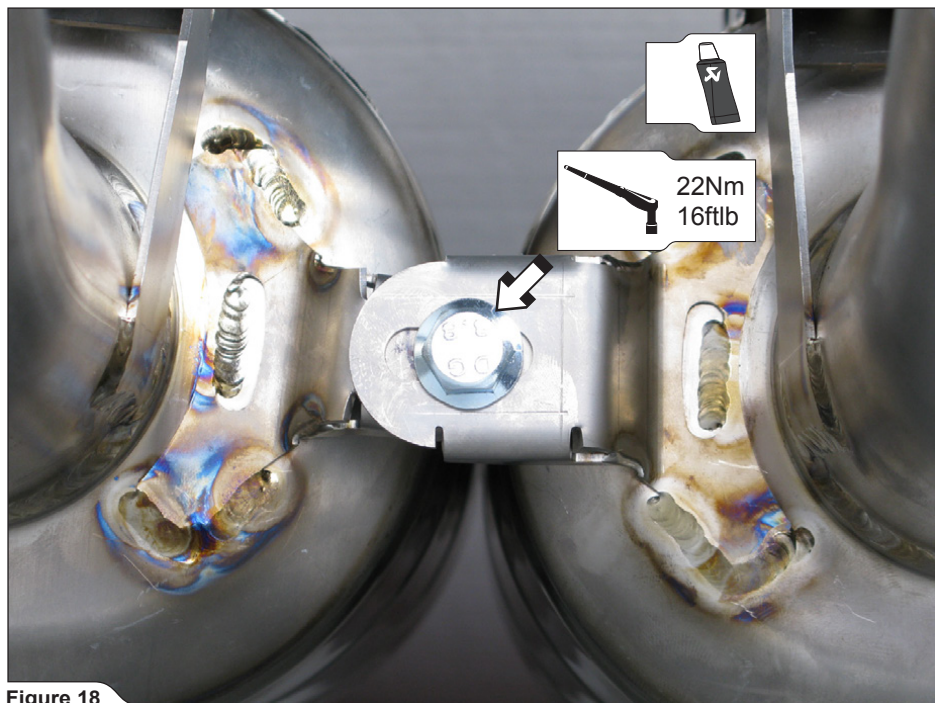

Figure 18
7. **For Slip-On and Evolution:** adjust the position of the mufflers (note proper gaps) and tighten the mufflers connection, using Akrapovič M8x16 bolt and nut (**Figure 18**).